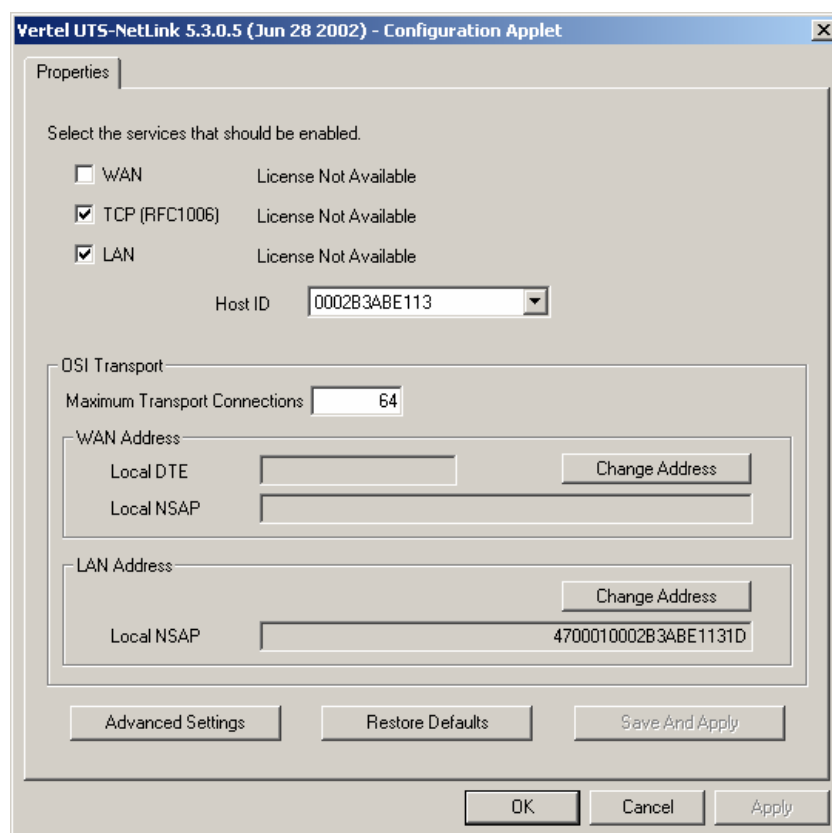

Figure 2-55 [UTS-NetLink Configuration] dialog box
- 6) After the files are copied, the [UTS-NetLink Configuration] dialog box is displayed. Click <Next>. The [Configuration Applet] dialog box is displayed, as shown in Figure 2-55.